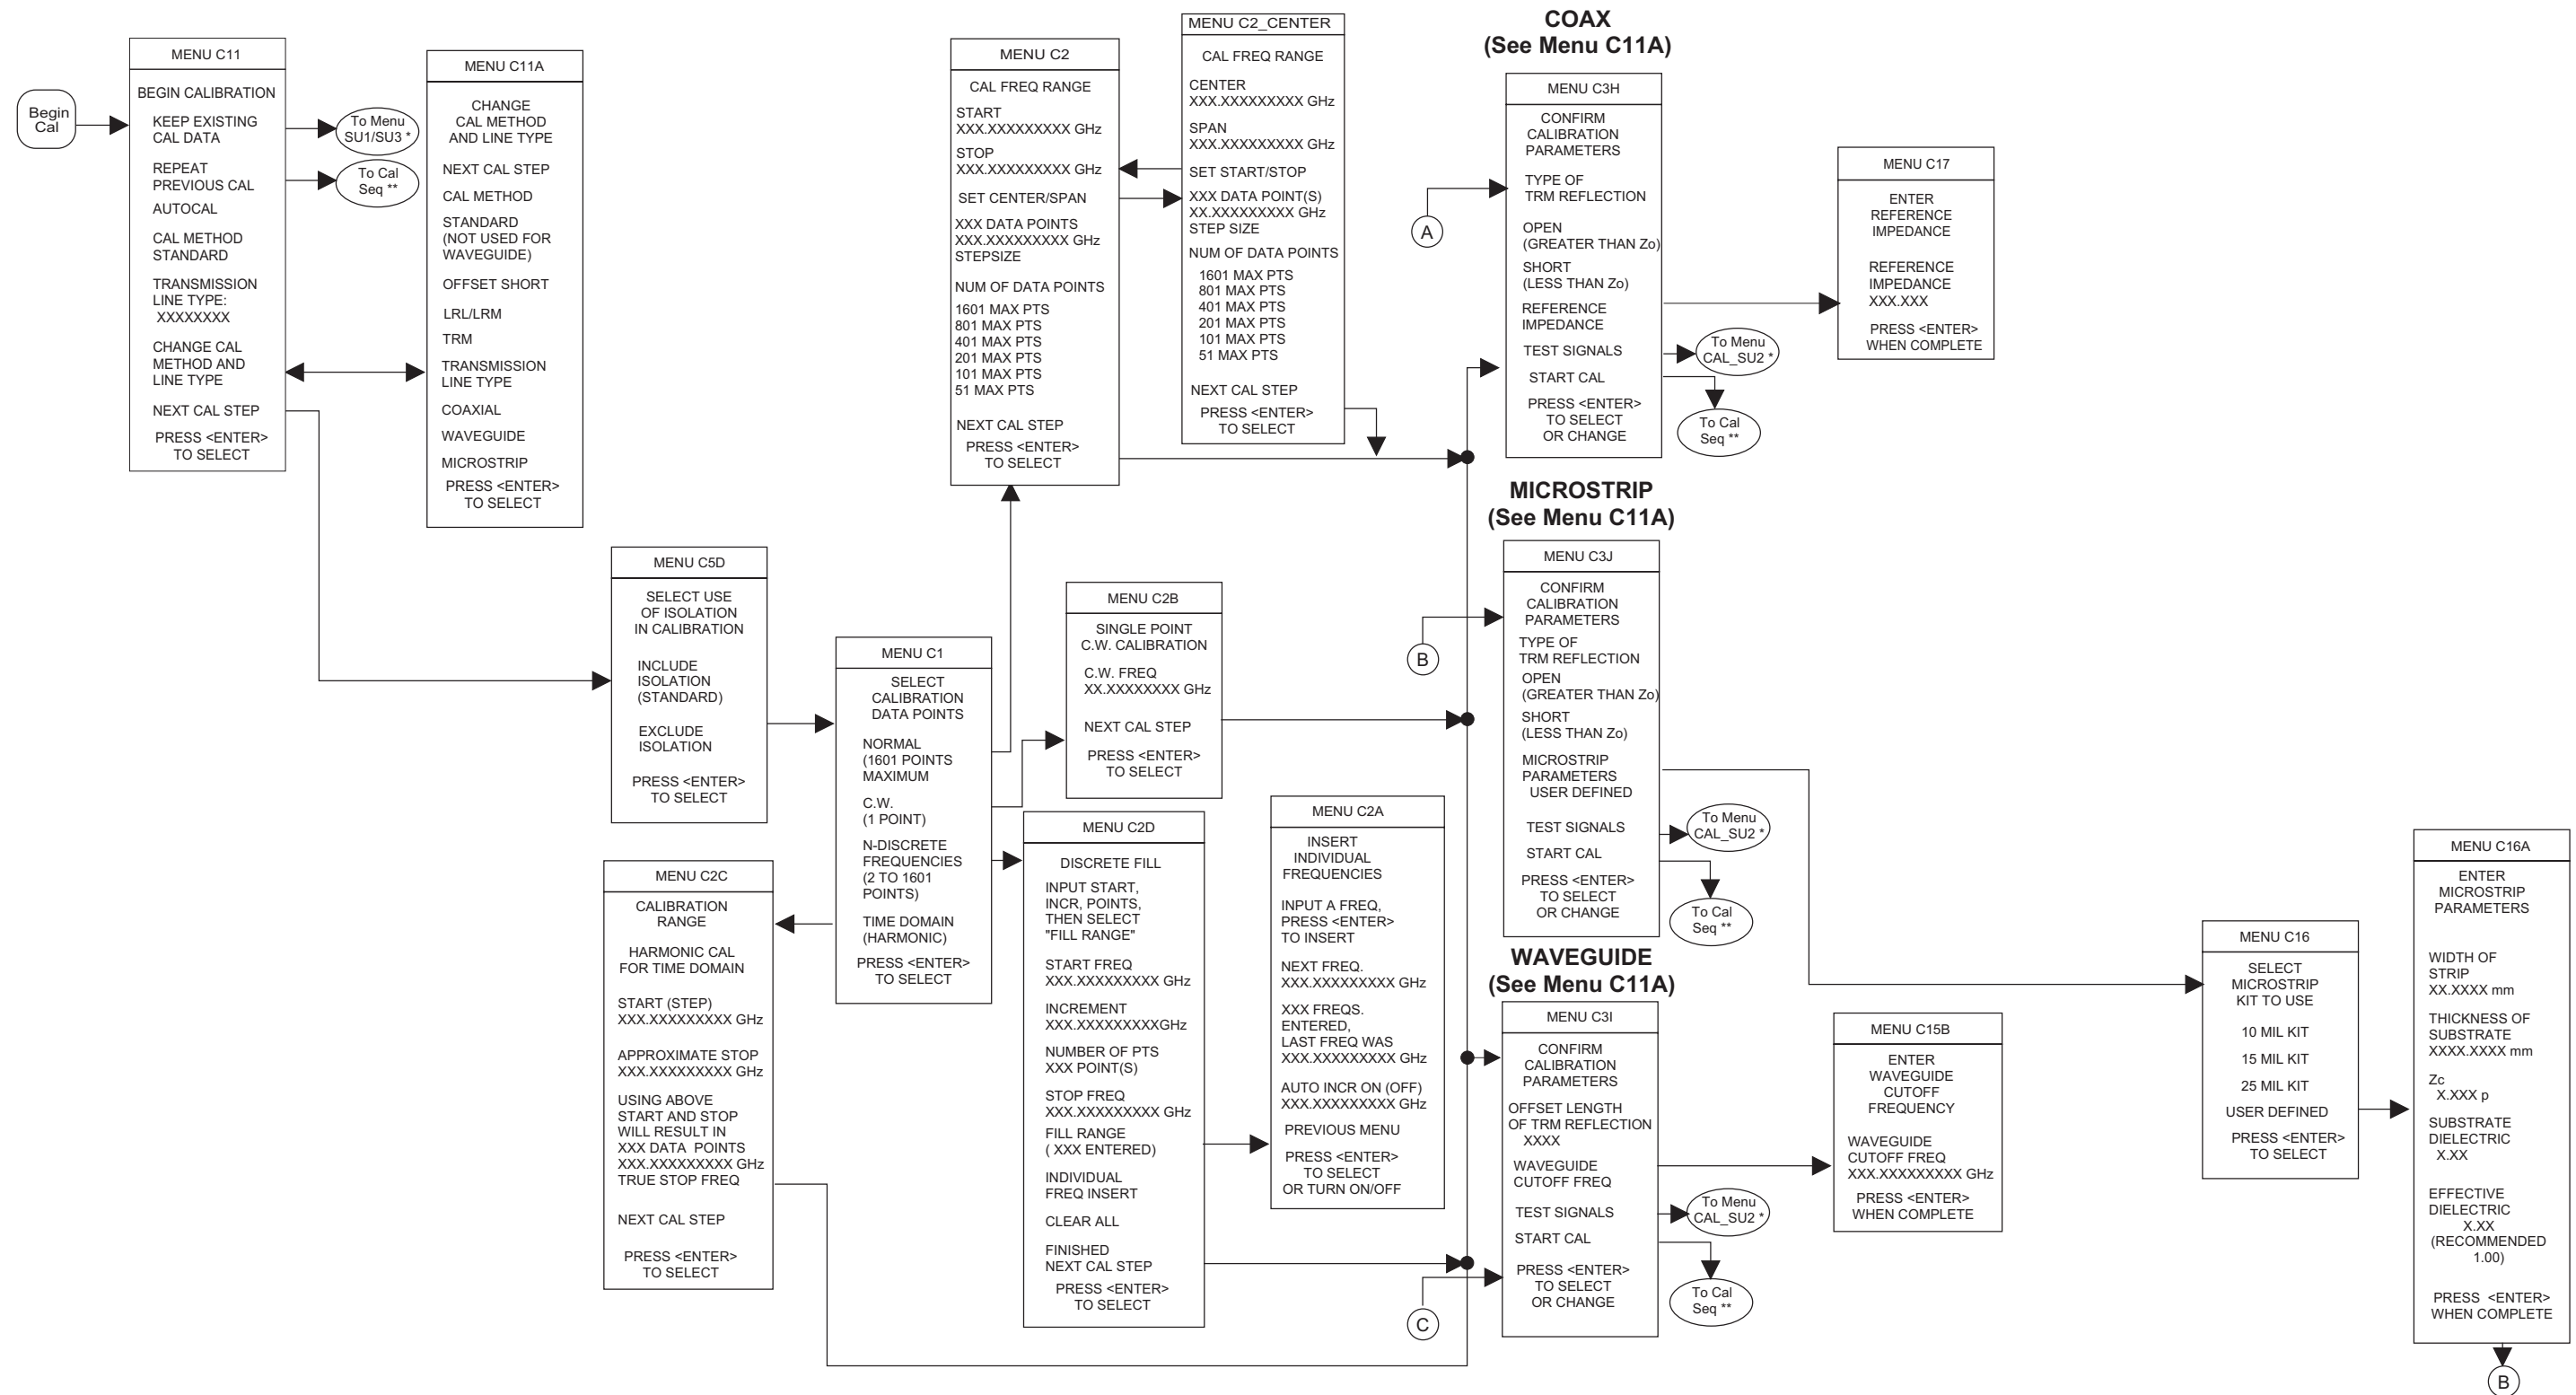

Figure 4-5. Menu Sequencing, TRM Calibration
** Cal Seq (Calibration Sequence) – See Figure 4-5